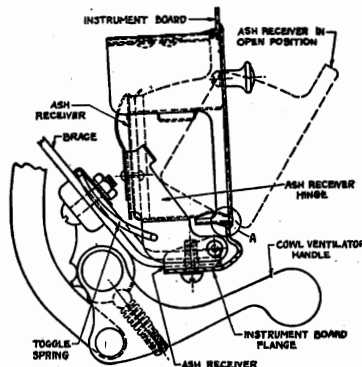
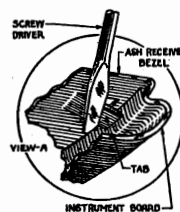

FIGURE 6
FIGURE 7
Loosen the two (2) screws which secure the instrument board brace to the instrument board flange. The cradle assembly can then be slid forward. Next, loosen the bolts on the brace in back of the instrument panel and remove the toggle spring. Slide the entire assembly forward and remove. Figure 6 gives the details of the ash receiver assembly, while Figure 7 gives an enlarged view of the Section A in Figure 6. Be sure to tighten all bolts and screws that were loosened for this operation. (See Note 1.)